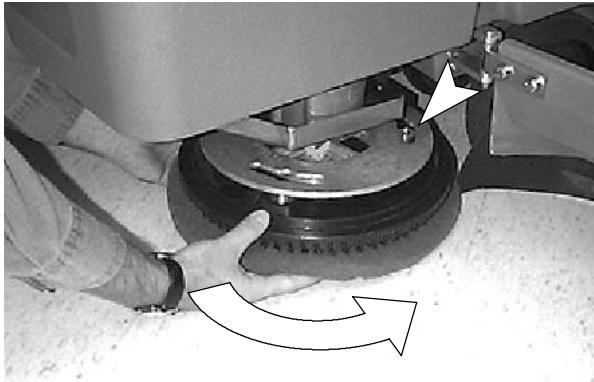

FIG. 9
- Align pad driver mounting studs with slots in motor hub. Give the driver a quick turn toward the motor hub spring clip. Be certain that spring clip locks into one of the studs before operating machine (Figure 9).